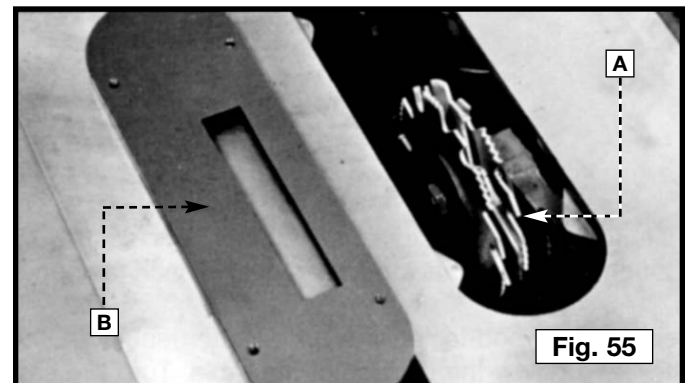

Fig. 55
The dado head set is shown attached to the saw arbor in Fig. 55.
**⚠ WARNING** DO NOT USE the outside arbor flange with the moulding cutterhead. Tighten the arbor nut against the cutterhead body. Keep the arbor flange handy because you will need it when you re-attach a blade to the saw arbor. Also, you must use the accessory moulding cutterhead table insert (E) Fig. 55 in place of the standard table insert.